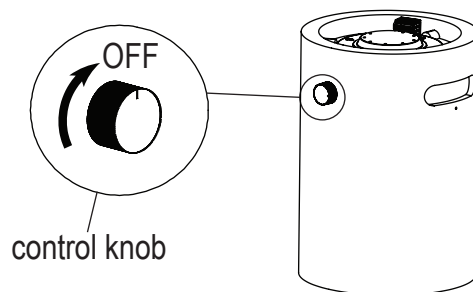

Figure 1
- Check that the control knob is turned to the “OFF” position before starting any assembly (See Figure 1).